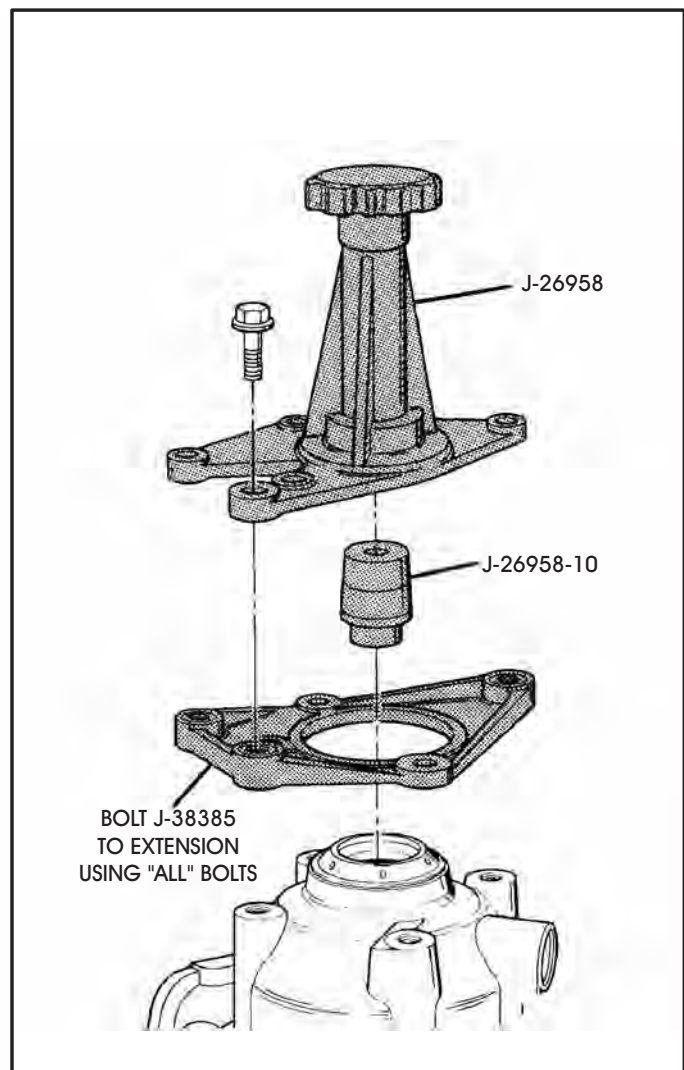

Figure 170
16. Install adapter J-38385 onto extension housing filling all bolt holes, and loading tool J-26958 as shown in Figure 170.